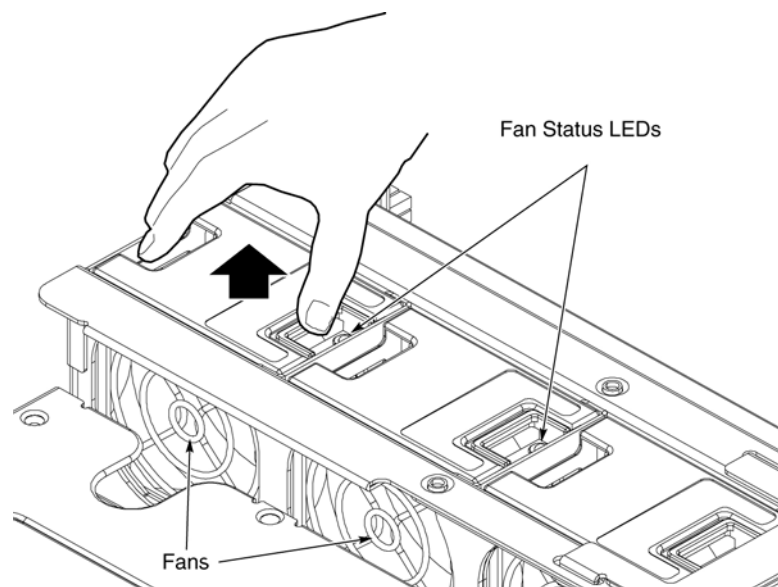

Figure 57. System Fan Location and Removal
4. If a fan has failed, the LED for that fan will display an amber LED. See *Figure 57* for help in locating the LEDs.
4. Place your fingers into the fan access points and squeeze your fingers together to release the fan latch and remove the fan. See *Figure 57*.